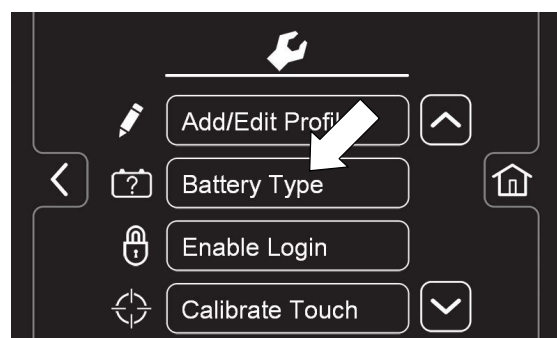

FIG. 122
4.  Press the Battery Type button to select the battery type installed in machine (Figure 122).